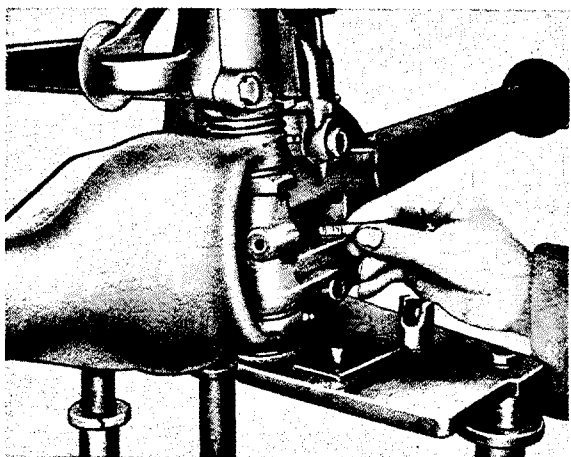

Fig. H 3a/70
70. Place rear axle suspension support in position with silent block mounted, but not yet tightened, and drive connecting pin through. The groove in the connecting pin must be strictly horizontal, as otherwise the wedge-type screw cannot be installed properly (Fig. H 3a/70).